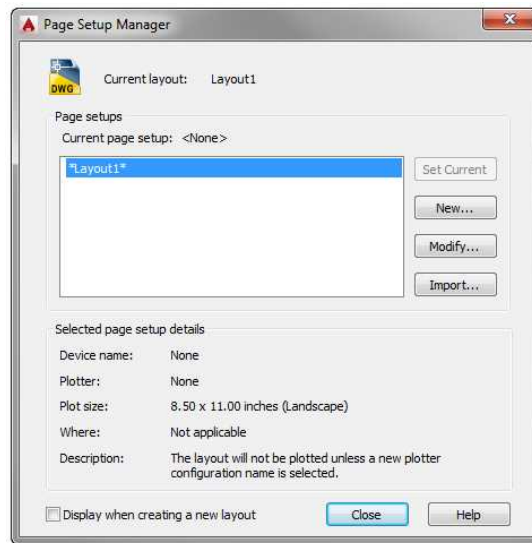

FIGURE 14.12 The Page Setup Manager dialog box
4. Choose Page Setup Manager from the Output tab > Plot panel to open the Page Setup Manager dialog box (see Figure 14.12).